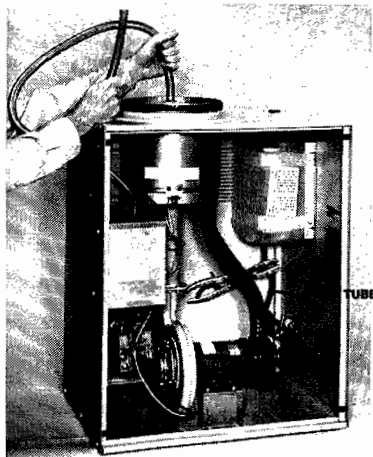

FIGURE 15
PROCEDURE: (1) Pinch off rubber vent tube. (2) Remove tube from top of module and replace plug. (3) Keep vent tube and charging hose pinched off. (4) Lower charging bucket below level of charging tee. (5) Remove charging hose and replace rubber plug. (Fig. 15)